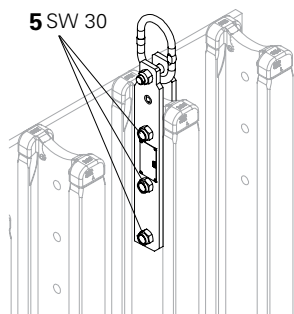

Fig. 4
5. Loosen the three nuts (5) by turning in a clockwise direction and secure with torque wrench (60 Nm). (Fig. 4)